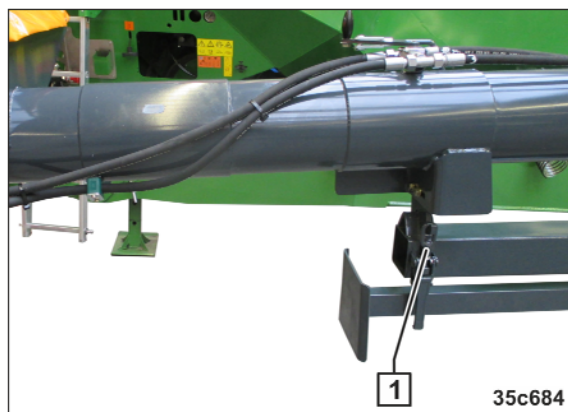

Fig. 246
3. Release the (Fig. 246/1) locking mechanism.
16. Swivel the filling auger over the frame and lock it (see Fig. 246/1).